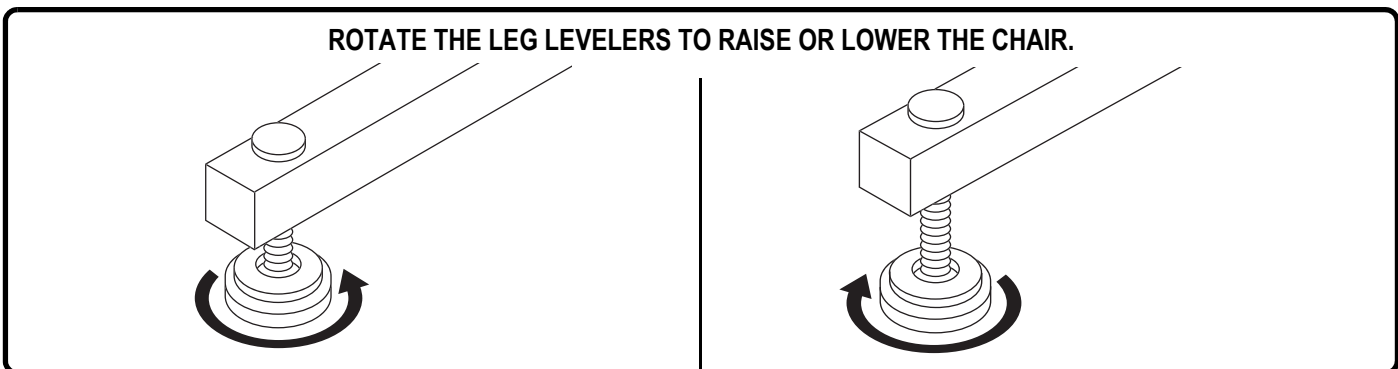

Figure 3.2 Leg Levelers
Leg Levelers: Manually rotate up or down in order to stabilise the chair before use (Fig. 3.2).
2. Adjust the leg levelers to stabilise the lift chair (**Fig. 3.2**).